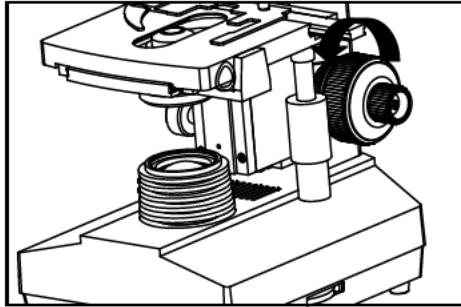

Fig.5
2.2.3 Installing objectives (Fig.5& 6)